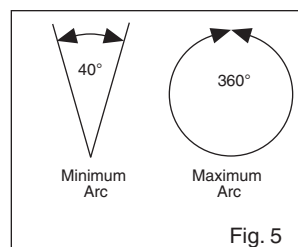

Fig. 5
3. Adjust to any arc between 40° and 360° (Fig. 5).